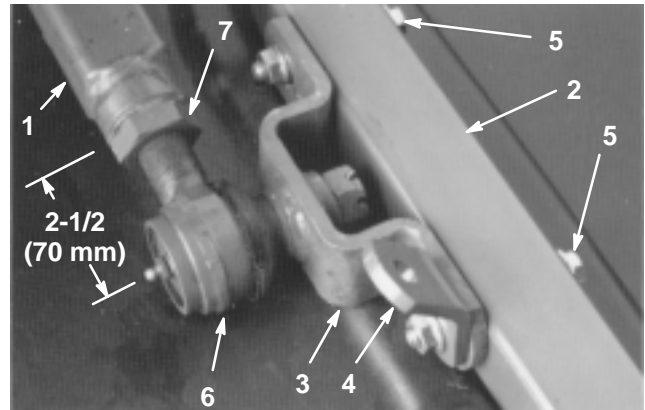

Figure 6
1. Remove the 2 capscrews, flat washers, and flange nuts securing the left-hand ball joint mount and chain bracket to the left-hand castor arm (Fig. 6). Remove the ball joint mount and chain bracket.
2. Remove the cotter pin and castle nut securing the left-hand ball joint mount to the left-hand push arm on the traction unit. Install the ball joint mount (removed from the castor arm) to the push arm with the castle nut and cotter pin previously removed (Fig. 6).
3. Measure the distance from the end of the left-hand push arm to the center of the ball joint (grease fitting) (Fig. 6). The distance should be 2-1/2 in. (64 mm). If the distance is not 2-1/2 in. (64 mm), loosen the jam nut securing the ball joint to the push arm and rotate the ball joint in or out until the distance is attained (Fig. 6). Do not tighten the jam nut at this time.